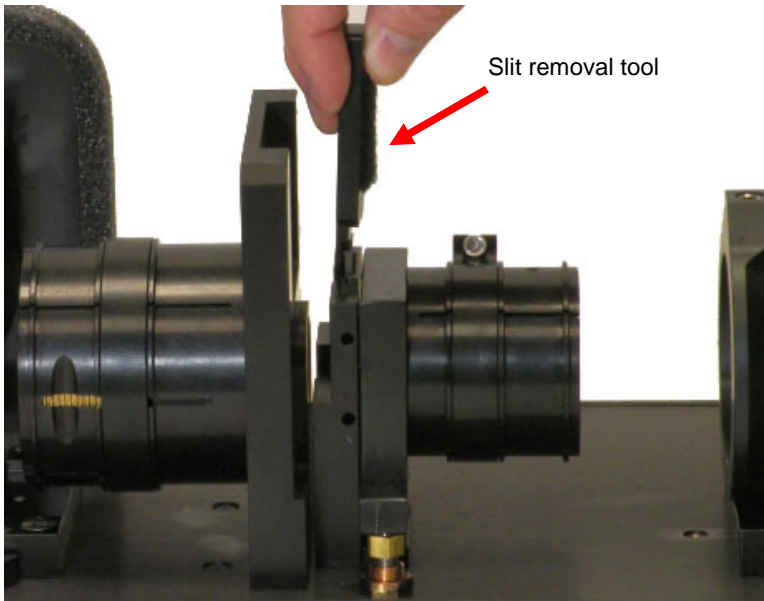

Figure 4-3. Removing the slit.
- 1** Loosen the slit-locking setscrew (Figure 4-3) using a 0.035" Allen key.
- 2** Orienting the tool as shown in Figure 4-3, place the hole in the tool over the round locating pin near the top of the slit.